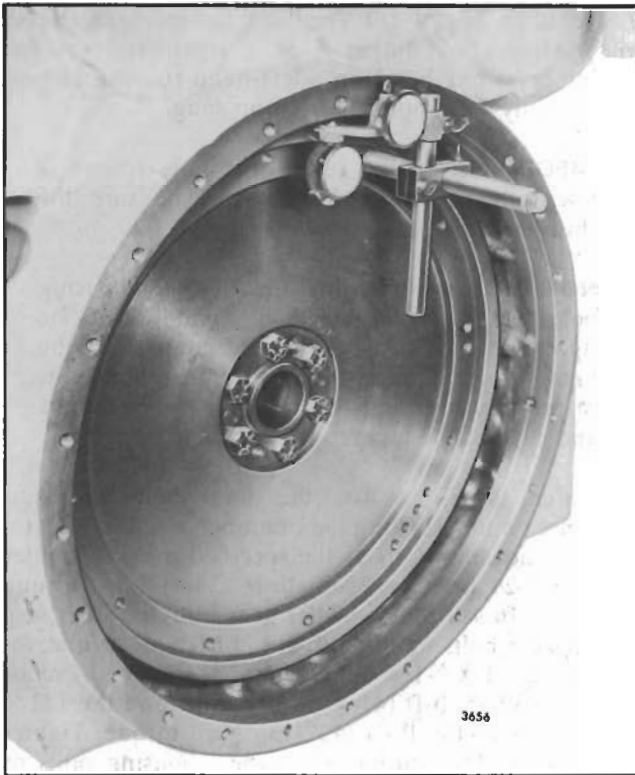

Fig. 6 - Checking Flywheel Housing
- Refer to Fig. 6 and thread the base post J 9737-3 tightly into one of the tapped holes in the flywheel. Then assemble the dial indicators on the base post with the attaching parts provided in the tool set.